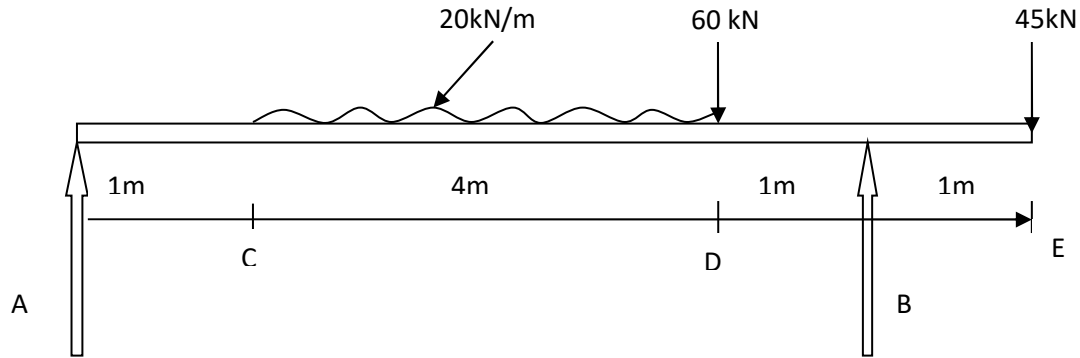

Fig. 3
3. A beam is supported and loaded as shown in Figure 3.